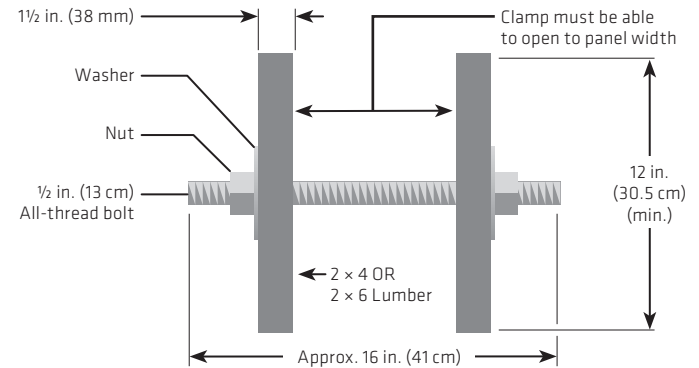

FIGURE 5: Standard Clamp: One per vertical joint
- ▶ Standard and Header Clamps (Figures 5 and 6)